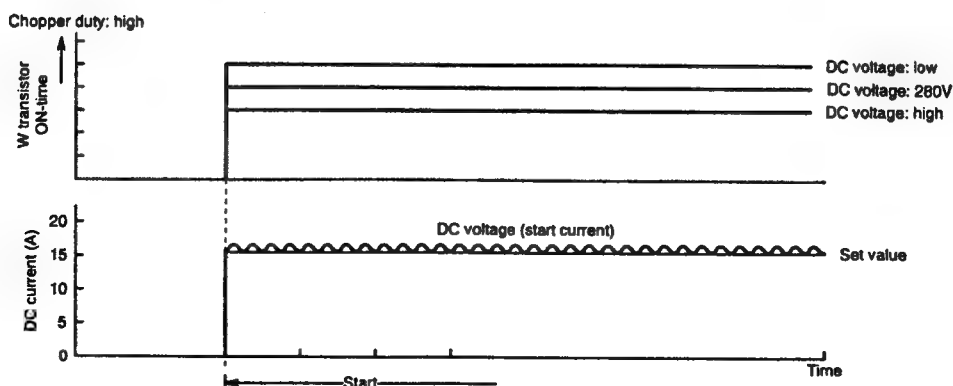

Fig. 8-10
- (2) Varies the turn-ON time of the W+ transistor according to the DC voltage level and the start is controlled so the start current is approx. 15A as shown in Fig. 8-10.